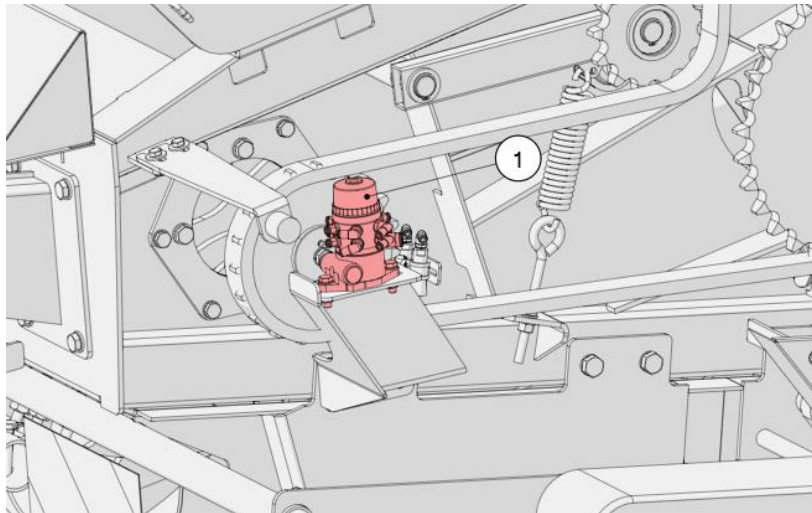

Figure 67. The pump of the automatic chain lubrication system
- Disconnect all lines from the pump (1) (Figure 67);
- Place an oil container under the pump (1);